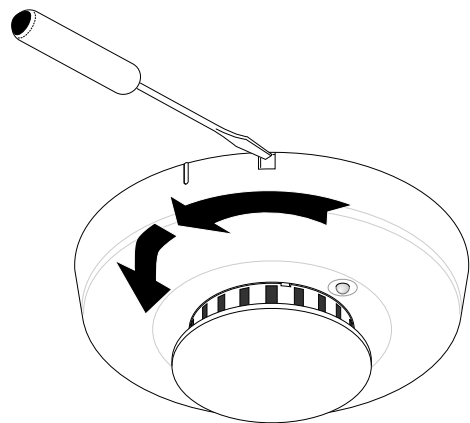

Figure 6 - Unlocking the Detector
**To remove the detector from the mounting base when the detector/base lock is used,** insert a small screwdriver into the locking tab slot on the side of the base and press in while simultaneously turning the detector counterclockwise 15 degrees. See Figure 6.